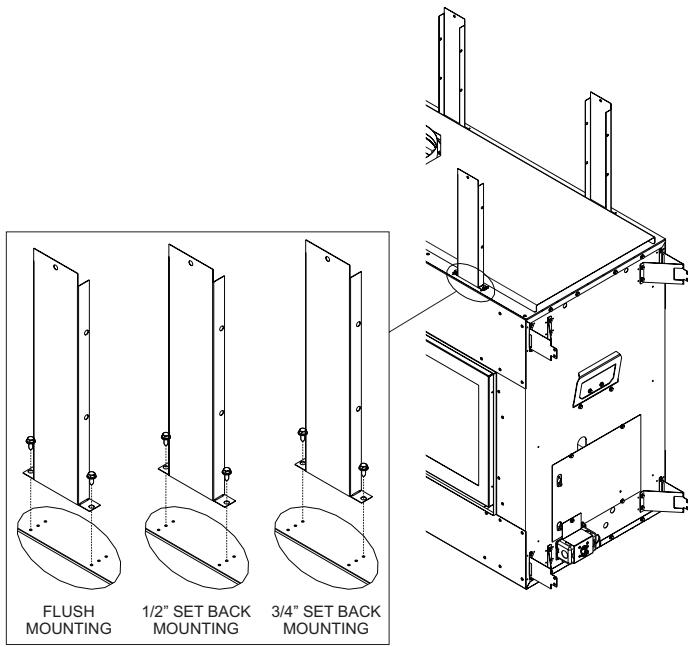

Figure 25
6. Attach three top framing brackets to the top front edge of the fireplace. These brackets support the non-combustible board above the fireplace. Preset depth to suit facing material (flush, 1/2 inch, or 3/4 inch set back depths). **See Figure 25.**